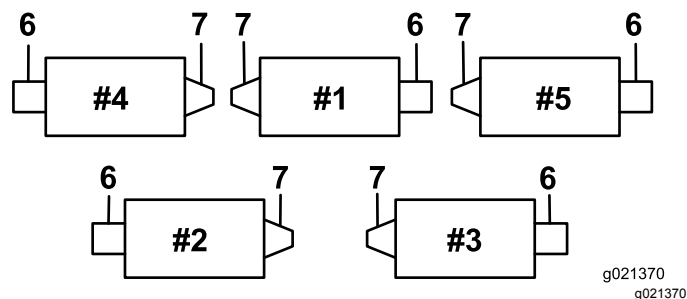

Figure 1
All cutting units are shipped with the counter weight mounted to the left end of the cutting unit. Use Figure 1 to determine the position of the roller brush and reel motors.
6. For 22 inch cutting units (#2 and #3 (Figure 1) roller brush side only). Remove the height of cut brackets (Figure 3).
7. **For 22 inch cutting units (#2 and #3 (Figure 1) roller brush side only).** Remove the sideplate by removing any hardware in the way and loosening the rear roller clamp nuts (Figure 4).
8. **For 22 inch cutting units (#2 and #3 (Figure 1) roller brush side only).** Remove bolts from sideplate.
9. **For 22 inch cutting units (#2 and #3 (Figure 1) roller brush side only).** Install the sideplate and height or cut bracket back onto the cutting unit.
Note: Left-hand threaded inserts are on cutting units #1, #3, and #5 (Figure 1).